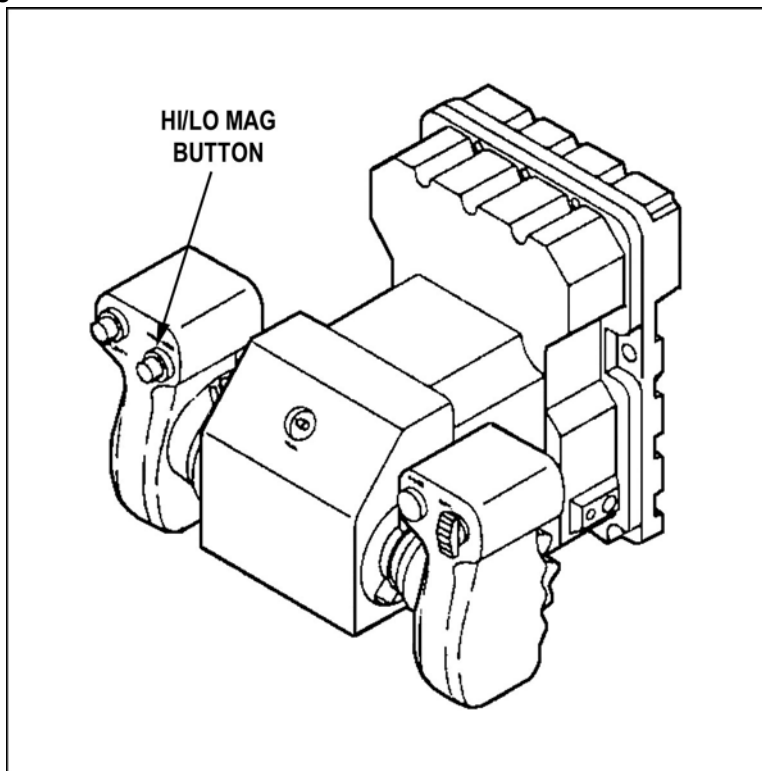

Figure 4. HI/LO MAG button.
- (1) Rotate the GHS left or right until the target is in the wide field of view (WFOV) low magnification (LO MAG).
- (2) Rotate the GHS forward or backward until the target is in the WFOV LO MAG.
- (3) Repeat steps (1) and (2) until the reticle is centered on the target.
- h. Select high magnification (HI MAG, narrow field of view (NFOV))(Figure 4).